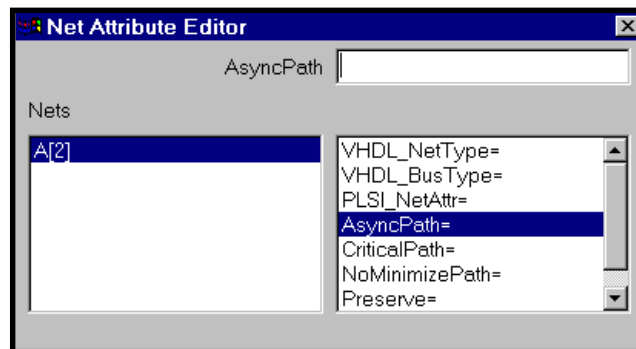

Figure 3-12. Net Attribute Dialog Box (ispLSI Devices)
4. The steps are similar for adding a Net attribute. On the schematic, click on the net you want to edit. In the Net Attribute dialog box (Figure 3-12), enter the relevant contents of the attribute. Close the dialog box.